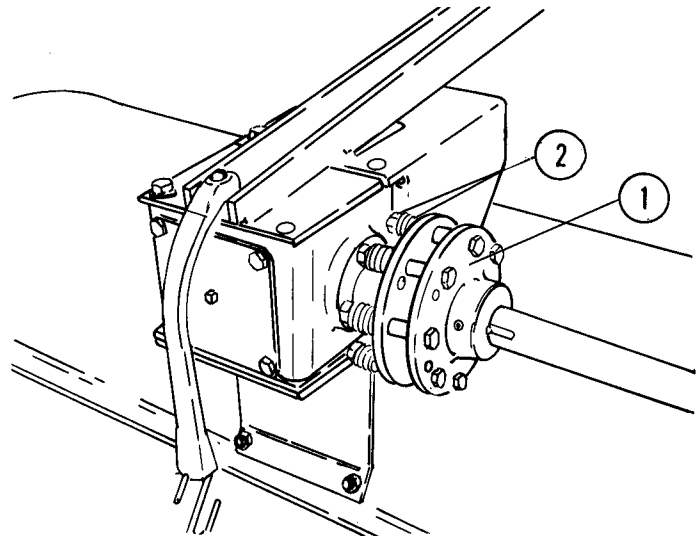

Fig. 17 — Torque Limiter
2. Tighten nuts until the springs are tight against pressure plate then back off 1/2 turn, Figure 17.